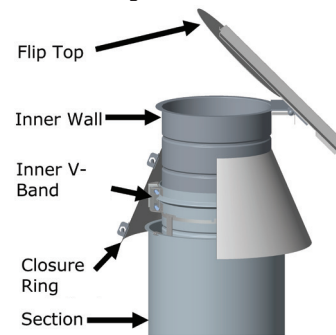

Figure 69 - Flip Top (FT) installed
(See Step 1 to 4 in the JOINT ASSEMBLY Section). For Models DAS1, DIS1, DIS2 and DIS4, a Closure Ring (CR) is provided to protects the insulated space between standard pipe inner and outer. If a FT is installed on a horizontal termination, the hinged side of the top must be oriented at the top of the pipe keeping the counterweight up. The CR must be seal to the inner wall with outer Sealant S-375. See Figure 69.